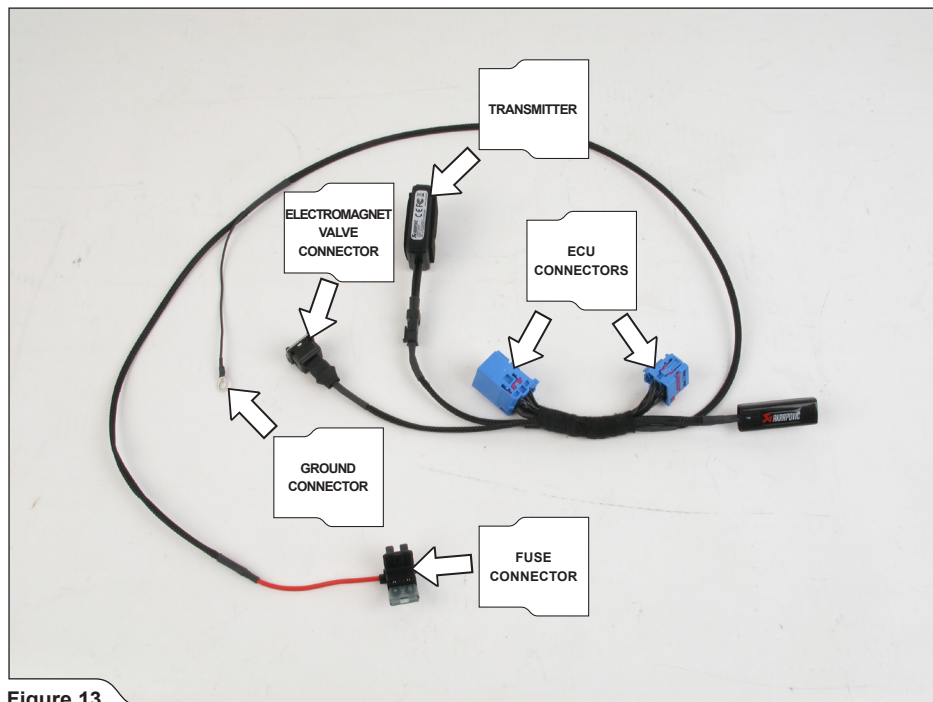

Figure 13
9. Akrapovič transmitter wiring harness (Figure 13).